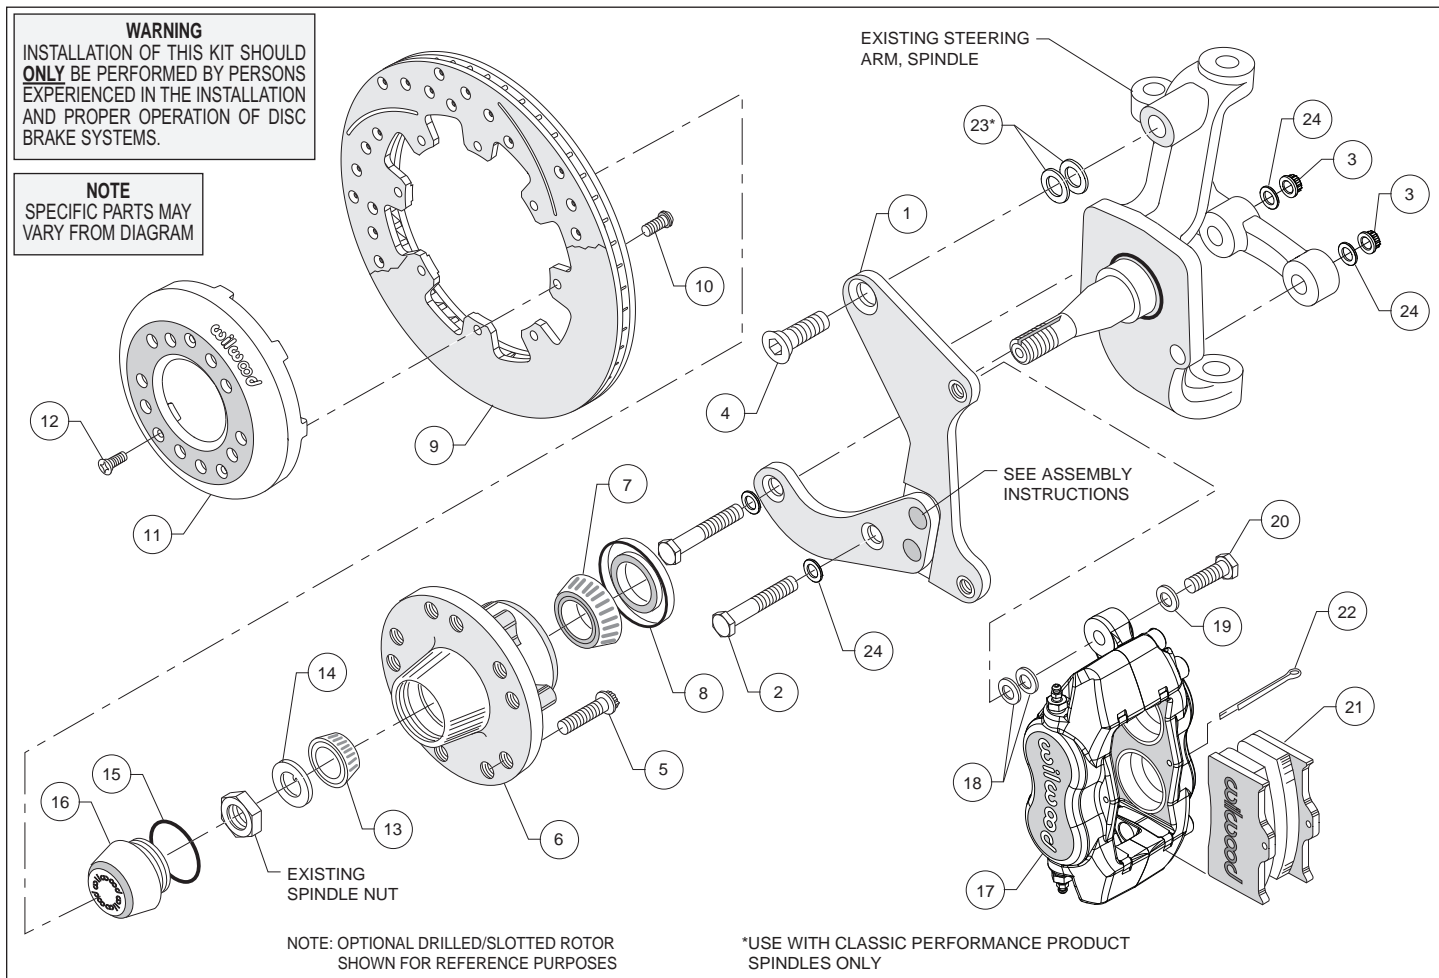
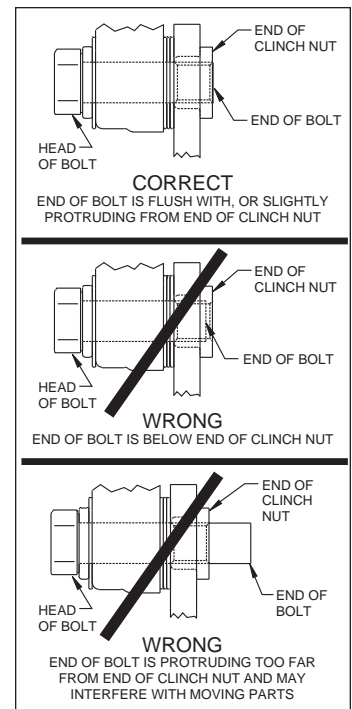

Figure 1. Typical Installation Configuration
Figure 3. Clinch Nut Engagement Diagram
Assembly Instructions (numbers in parenthesis refer to the parts list and Figure 1 on the preceding pages): **CAUTION:** All mounting bolts must fully engage clinch nuts. Be sure to check that all bolts are either flush or protruding through flanged side of clinch nut after shimming, Figure 3.
•The caliper mounting bracket (1) has been assembled at the factory for alignment purposes. Loosen the two bolts that secure the brackets together so that the bolts are hand tight only, this will enable the bracket assembly to be adjusted to accommodate various spindle tolerances during assembly. Orient the bracket as shown in Photo 1 and Figure 1, and install to lower mount holes using bolts (2), washers (24), and lock nuts (3), Figure 1 and Photo 1. Do not tighten yet.
•**For Classic Performance Products spindles only:** Initially use two .024" thick shims (23) on upper mount bolt between bracket and spindle, Figure 1. While test fitting bracket assembly per the instructions below, check that the bracket is parallel to the rotor. If not, add or subtract shims (23) between the bracket and spindle.
•Install bolt (4) in the upper bracket hole. Temporarily tighten all of the bracket mounting bolts. Ensure that the flanged heads of the clinch nuts in the bracket are facing outboard, Photo 1. **NOTE:** The bracket must fit squarely against the mounting points on the spindle. Inspect for interference from casting irregularities, machining ridges, burrs, etc. Torque lower lock nuts to 47 ft-lb. Remove the upper bolt, apply red *Loctite*® 271 to threads, and torque to 140 ft-lb. Remove one at a time the bolts that secure the bracket assembly to each other, apply red *Loctite*® 271 to the threads and torque to 40 ft-lb.
•Install wheel studs (5) into the hub (6), Photo 2 and Figure 1. Torque to 77 ft-lb. **NOTE:** There are two five lug patterns in the hub (5 x 4.50 and 5 x 4.75). Ensure the correct hub stud pattern is being used to fit the wheel application.
•Pack the large inner bearing cone (7) with high temperature disc brake bearing grease (available from your local auto parts store) and install into the backside of the hub (6), Photo 3.
- Screw dust cap (16) into hub (6), Photo 5. Friction created by the o-ring (15) on the dust cap keeps it from unscrewing. **NOTE:** The O.D. of the existing OEM spindle washer may be larger than the I.D. of the dust cap not allowing it to seat against the hub face. Therefore, use the spindle washer (14) supplied with the kit instead of the OEM washer.
- Orient the rotor (9) and the hat (11) as shown in Figure 1. Attach the rotor to the hat using bolts (10). Using an alternating sequence, apply red *Loctite*® 271 to the threads, and torque to 25 ft-lb.
- Slide the rotor/hat assembly over the hub (6) taking care to align the small countersunk holes in the hat (11) with the small threaded holes in the hub. Install three flat head screws (12) through the small holes in the hat and torque to 85 in-lb.
- NOTE:** Please reference the caution statement at the beginning of the assembly instructions. Mount the caliper (17) onto the caliper bracket (1) using bolts (20) and washers (19) as shown in Figure 1. Initially place two .035" thick shims (18) on each bolt between the caliper and bracket, Photo 6. Temporarily tighten the mounting bolts and view the rotor (9) through the top of the caliper. The rotor should be centered in the caliper, Photo 7. If not, adjust by adding or subtracting shims between the bracket and the caliper. Always use the same amount of shims on each of the two mounting bolts. **NOTE:** The end of each bolt must be flush with or slightly protruding from the head of the clinch nut, as shown in Figure 3.